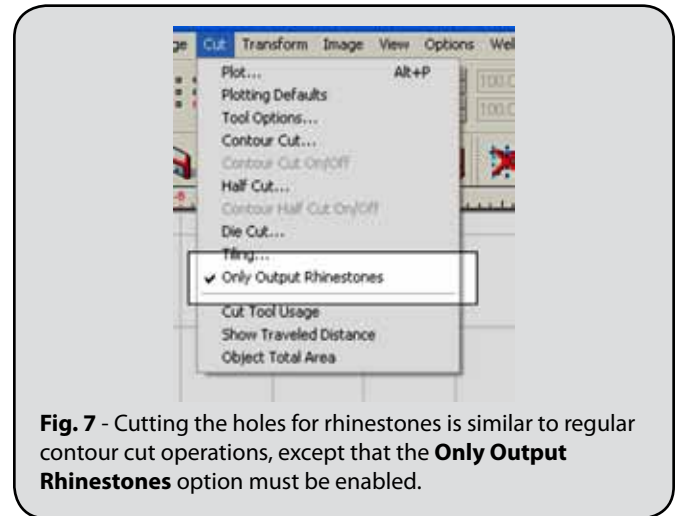

Fig. 7 - Cutting the holes for rhinestones is similar to regular contour cut operations, except that the **Only Output Rhinestones** option must be enabled.
11. Confirm that the **Cut** menu >> **Only Output Rhinestones** option (Fig. 7) has a checkmark.